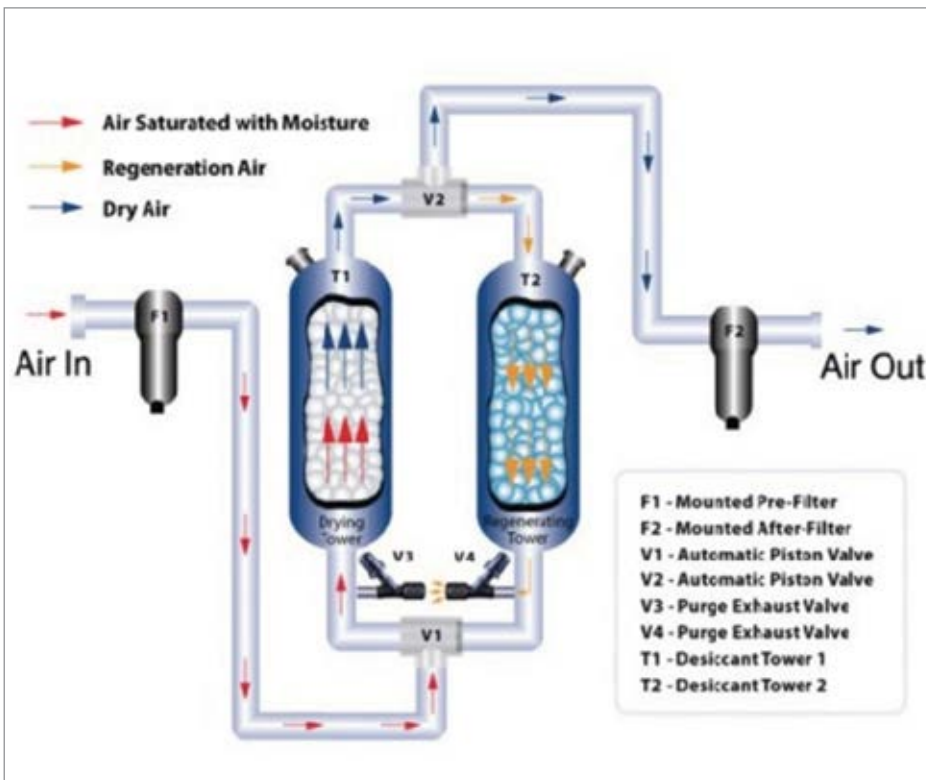

Figure 7. Typical Regenerative Air Dryer Diagram
Refer to Figure 7 for a typical regenerative air dryer diagram, most are similar. The four most common types on the market, based on the type of regeneration method, are as follows:
1. **Heatless Regenerative** (shown in Fig 7): Use about 15% of dry “purge” air to regenerate offline tower, about 10 minute total cycle, -40°F dewpoint. They use approximately 15% energy to dry.